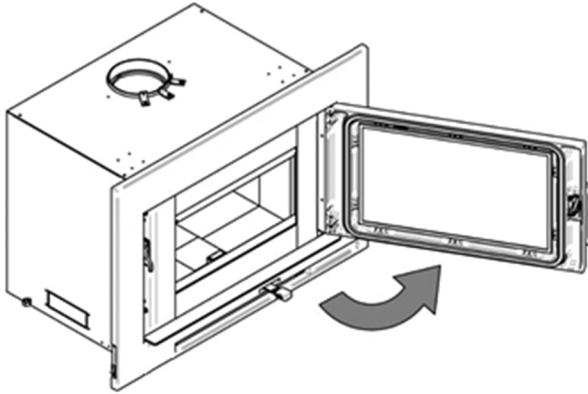

Figure 24 - Open Door
**LOW BURN:** Move the air control lever all the way to the right. (See figure 24). This closes the air shutter to its minimum opening. A low burn rate over extended periods is not advisable as it can promote the accumulation of creosote. Inspect the venting system frequently if using low burn rates consistently.